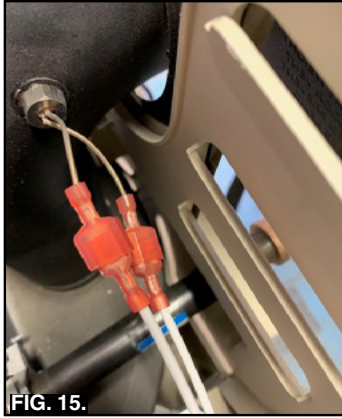

FIG. 15.
11. Connect the Stack Flu sensor. (Fig. 15)